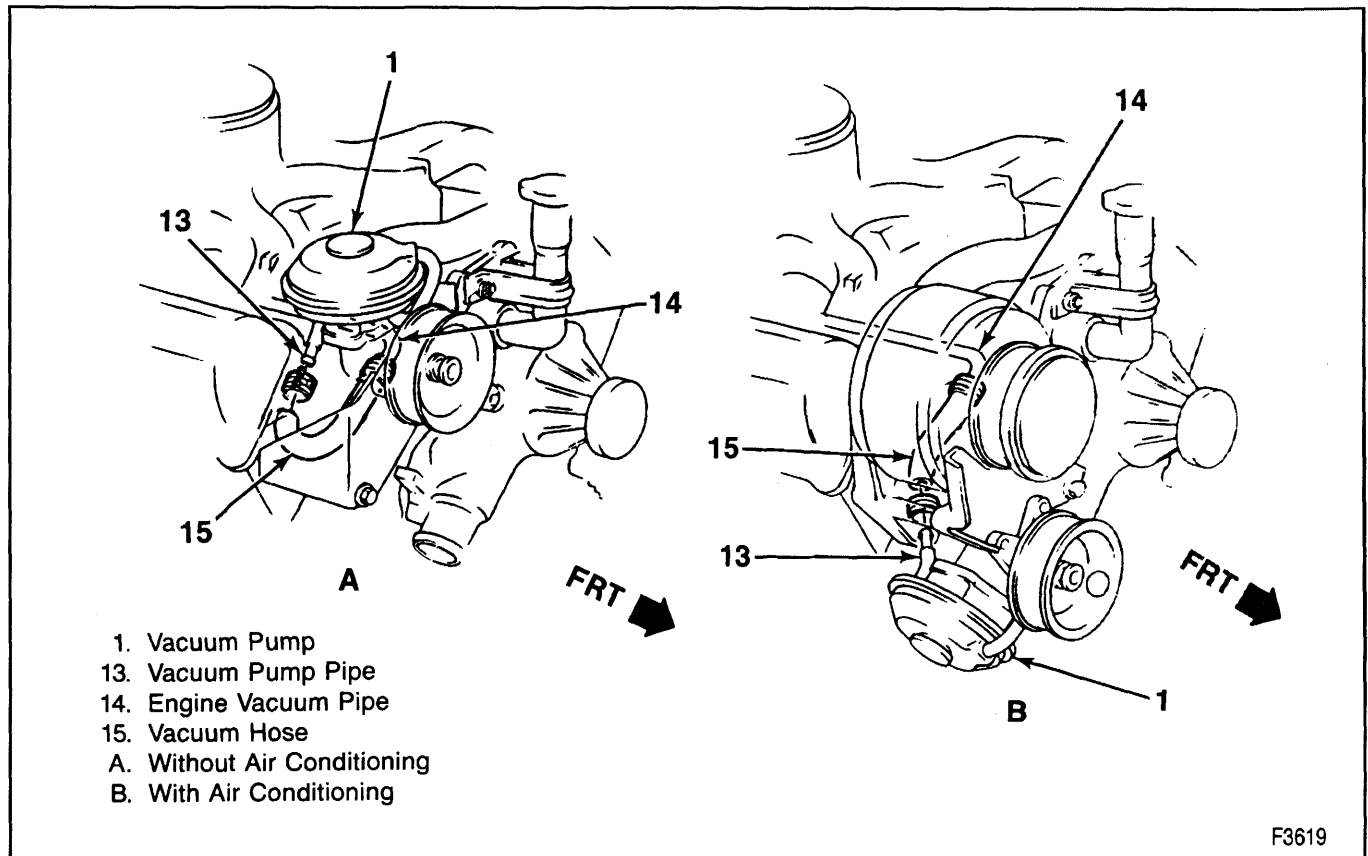

Figure 5—Vacuum Pump Hose
- 5. Vacuum hose (15) off the vacuum pipe (14), leaving the hose attached to the pump (figure 5).
3. Vacuum hose (15) (figure 5).
4. Vacuum pump and bracket assembly to the engine with bolt (12) and nuts (3).